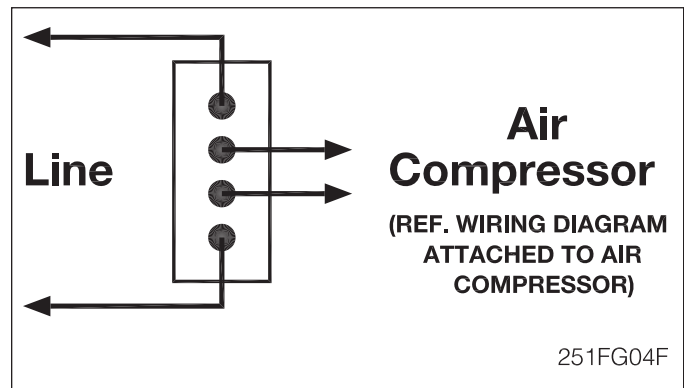

Figure 3
- b. Remove the pressure switch's (Item 1) cover and connect the wiring in accordance with the National Electric Code or other appropriate standards. The connections should be as shown in Figure 3 for single phase wiring of thermally protected compressor motors. Refer to separate dry pipe valve and deluge valve bulletins for additional installation information.